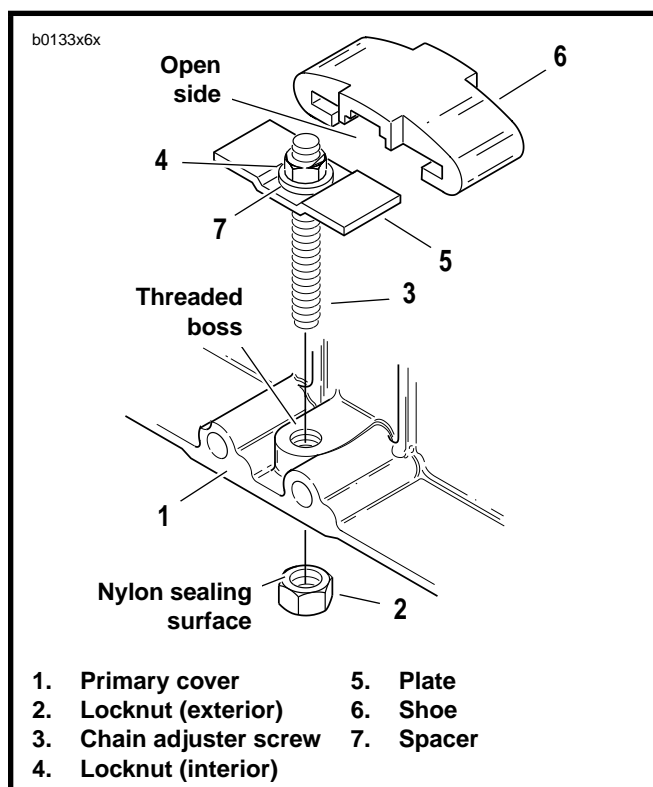

Figure 6-3. Primary Chain Adjuster
1. See Figure 6-3. If shoe (6) is badly worn, replace it or adjust assembly.
2. Install plate (5) over top of chain adjuster screw (3). Place spacer (7) over top of adjuster screw next to plate. Secure plate and spacer to adjuster screw by threading on locknut (4). Tighten locknut to 10-12 ft-lbs (14-16 Nm).
3. Place plate into slots at open end of shoe (6). Slide shoe over plate until locknut at top end of adjuster screw is against closed (blind) side of shoe.
4. Position adjuster inside primary cover (1) with closed side of shoe against cover. Thread adjuster screw into tapped boss at bottom of primary cover. At outside of cover, install locknut (2) onto adjuster screw with nylon sealing surface toward cover.